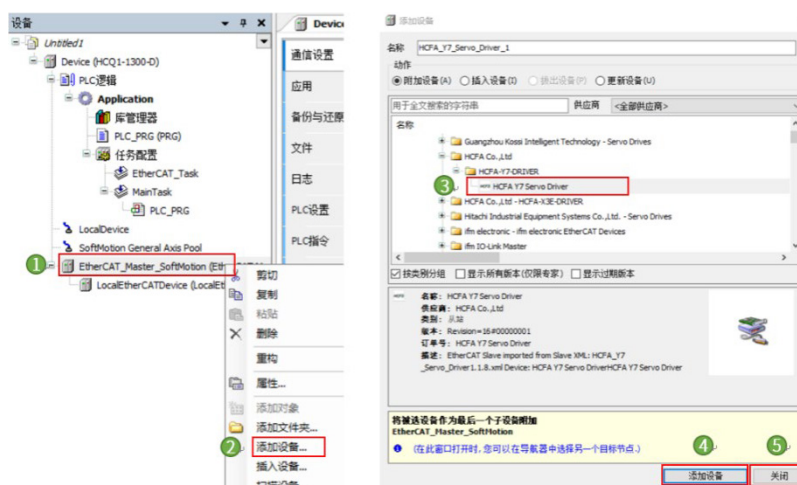

Figure 13-9 Y7S servo adding
3. Right-click [EtherCAT_Master_SoftMotionm] and select [Add Device]. Select [HCFA Y7 Servo Driver] in the pop-up screen, click [Add Device], and click [Close] after adding, as shown in Figure 13-9. If there is no [HCFA Y7 Servo Driver], please add the corresponding XML.